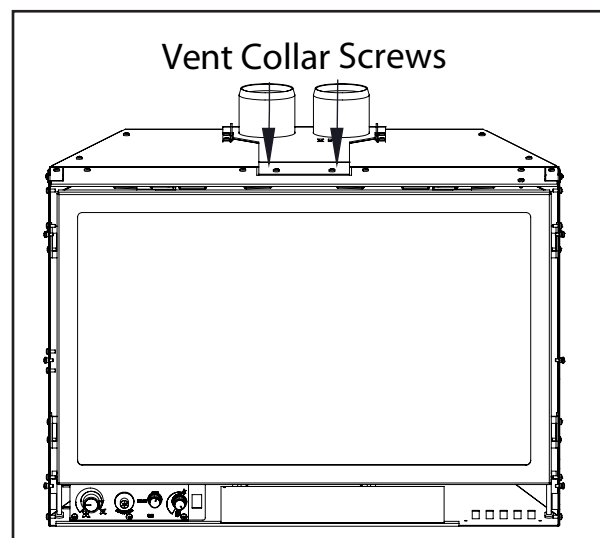

Figure 30: Vent Collar Plate Screw Location.
8. Apply a bead of stove cement sealant to the Ø3" (76mm) pipe of the exhaust vent terminal. Slide the flex liner onto the vent terminal and secure with three (3) sheet metal screws evenly spaced.
9. Place a bead of high temperature silicone on the intake collar of the vent terminal. Slide the Ø3" (76mm) flex intake liner over the collar, secure the flex liner with three (3) sheet metal screws evenly spaced. Secure the vent terminal to the chimney using adequate sealant, and according to local building codes.
10. If the fireplace opening is lower than 24" (610 mm), remove the vent collar plate from the top of the insert by unscrewing the two (2) T-20 Torx screws located on the center top of the stove above the door opening (see Figure 30). Slide the collar plate backwards. Properly secure the vent collar plate to the flexible vent pipe liner(s) previously installed in the chimney. Be careful not to over-stretch the liner(s).
11. Apply a bead of stove cement sealant to the top section of the Ø3" (76mm) exhaust vent collar plate. Slide the Ø3" (76mm) flex vent over the flue collar and secure with three (3) sheet metal screws evenly spaced.
12. Place a bead of high temperature silicone on the intake collar of the fireplace, slide the Ø3" (76mm) flex intake liner over the collar, secure the flex liner with three (3) sheet metal screws evenly spaced.